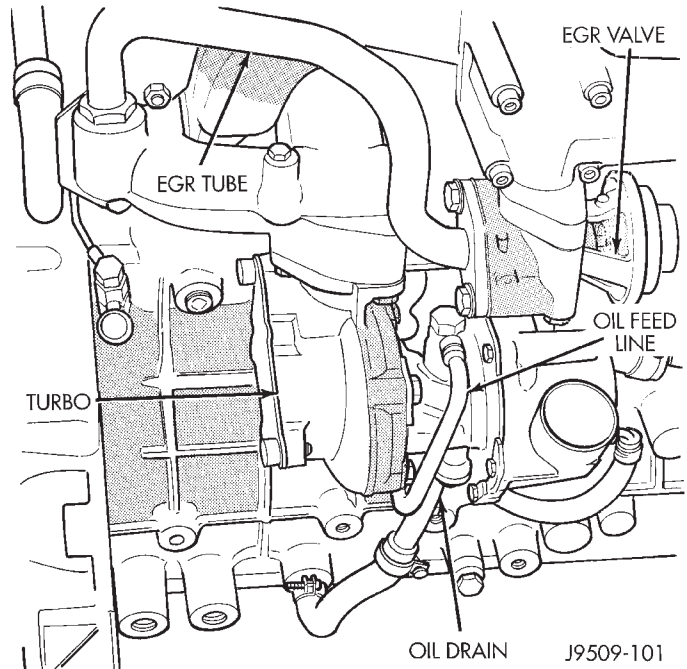
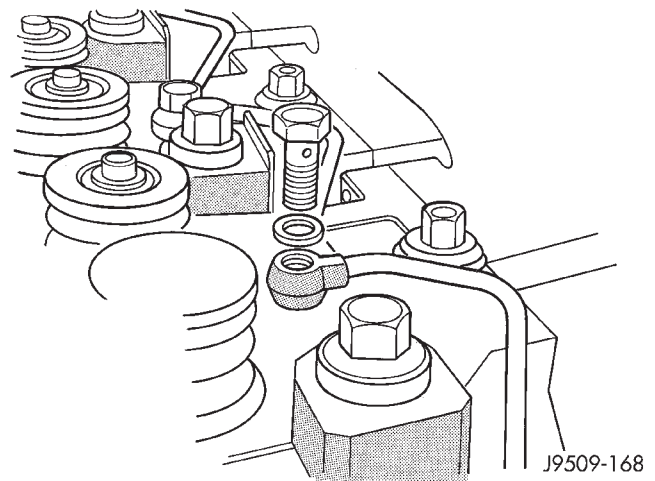

Fig. 30 Turbocharger
Fig. 31 Rocker Arm Oil Feed Lines
(5) Remove the air cleaner hose from turbocharger and breather hose.
(6) Remove the air cleaner assembly and breather hose.
(7) Remove the generator support bracket.
(8) Remove the upper radiator hose and coolant recovery hose.
(9) Remove the water manifold and recovery hose.
(10) Disconnect the heater hoses and coolant recover bottle hose.
(11) Disconnect the EGR tube from EGR valve.
(12) Remove the EGR valve
(13) Remove the exhaust heat shield from exhaust manifold.
(14) Remove the exhaust heat shield from down pipe.
(15) Remove the exhaust down pipe from turbocharger (Fig. 30).
(16) Disconnect the oil feed line from turbocharger.
(17) Disconnect the oil drain line from turbocharger.
(18) Remove the Exhaust manifold. Refer to Group 11, Exhaust System and Turbocharger.
(19) Remove the Intake manifold. Refer to intake manifold removal and installation procedure in this section.
(20) Remove the oil feed line for rocker arm assemblies (Fig. 31).